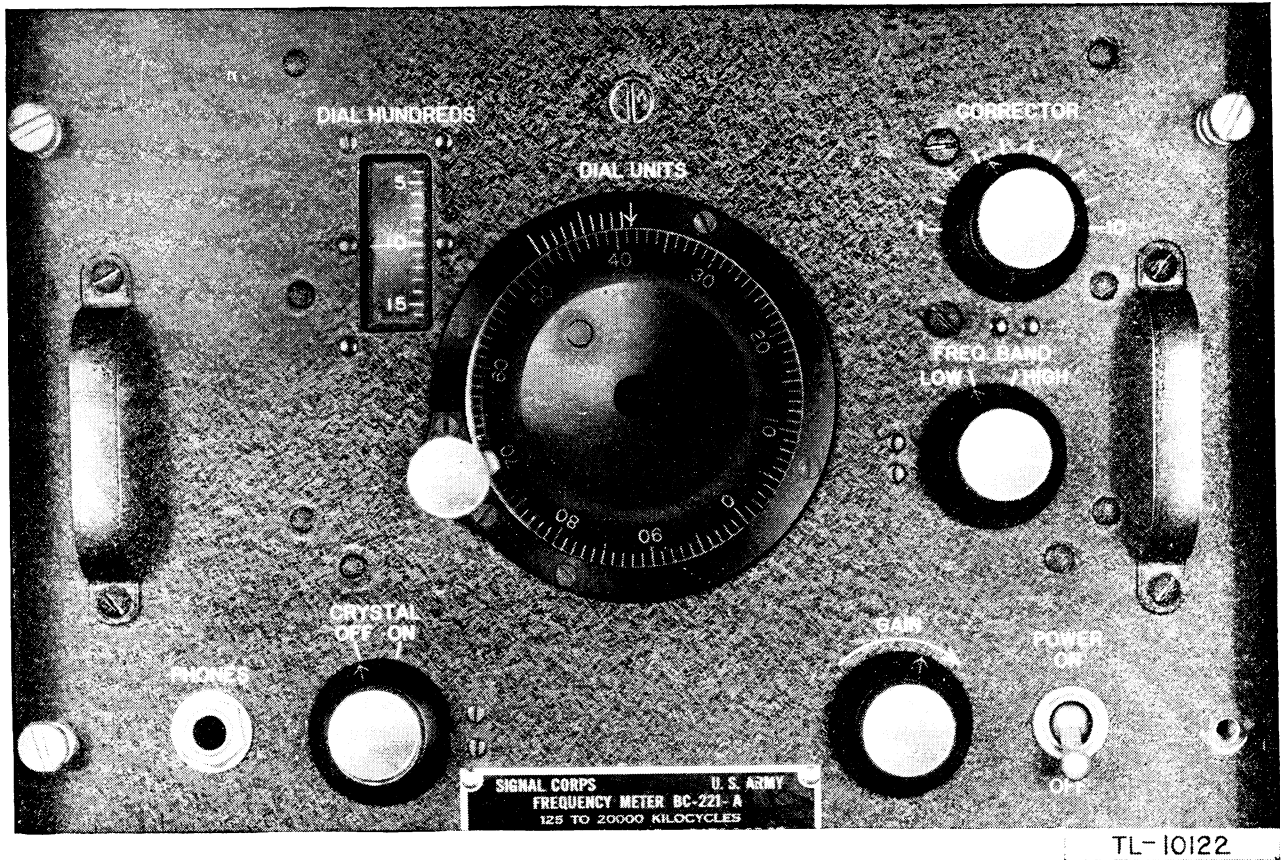
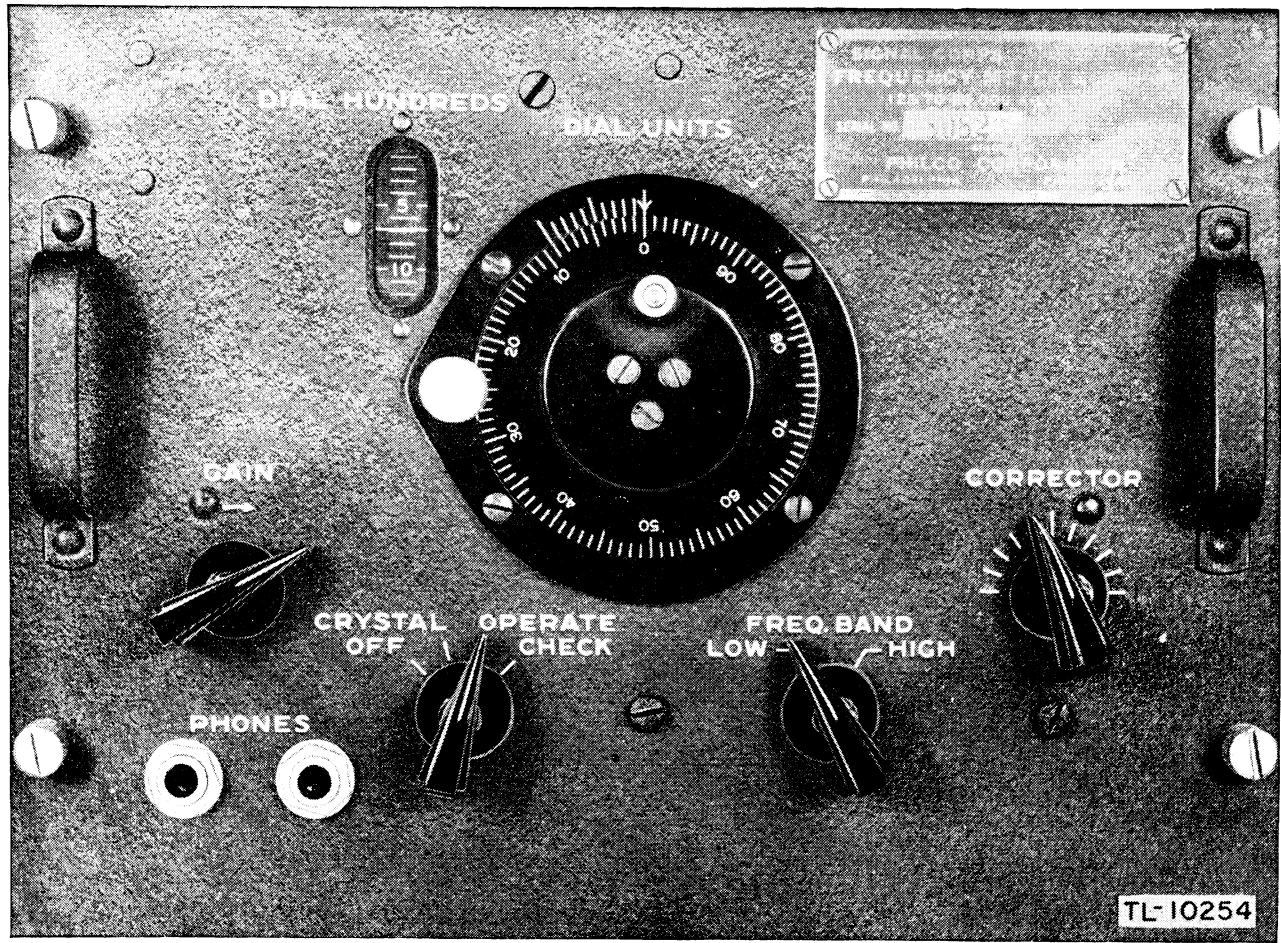

Figure 3. Frequency Meters BC-221-A, BC-221-C, and BC-221-D, control panel lay-out.
Figure 4. Frequency Meters BC-221-B, BC-221-E, BC-221-N, BC-221-Q, BC-221-AA, BC-221-AE, and BC-221-AG, control panel lay-out.
d. The various models of Frequency Meter BC-221-(&) come with six different types of control panel arrangement. Some of these arrangements are further modified in the location of the antenna post, ANT, and sometimes a ground post, GND, mounted on the control panel instead of on top of the cabinet. These modifications are shown on the figures of the particular models. (See figs. 3 through 8, incl.)
NOTES. 1. In addition to the controls shown on figure 4, the control panel of the BC-221-AA and BC-221-AE contains an antenna post, ANT, and the control panel of the BC-221-AG contains both an ANT and GND post.
operations. All models have a **FREQ. BAND LOW-HIGH** switch. In the case of figure 5, it will be seen that a third function, **CRYSTAL ONLY**, is combined with this switch. The greatest difference between the various models lies in the switch which controls the operation of the crystal oscillator. This switch is called the operation switch throughout this manual. In figures 3 and 5, it is marked **CRYSTAL OFF-ON**; in figure 4, it is marked **OFF-CRYSTAL-OPERATE-CHECK**; in figure 8, **OFF-WARM-UP-CRYSTAL-OPERATE-MODULATE-CHECK**; in figure 6, **HET. OSC-XTAL CHECK-XTAL ONLY**; and in figure 7, **MOD.**